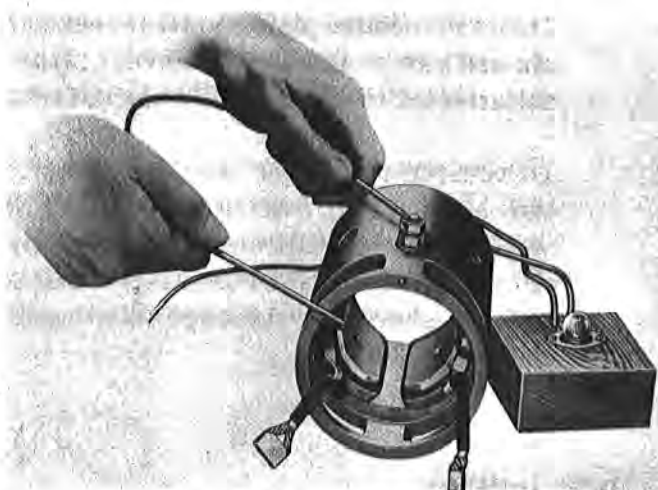

Figure 4 - Testing Motor Fields for Grounds
5. Field Coils - Check the field coils for grounds (Figure 4) by placing one test probe on the frame and the other on the starter terminal. Be sure the brushes are not accidentally touching the frame. If the lamp lights, the fields are grounded. Repair or replace.